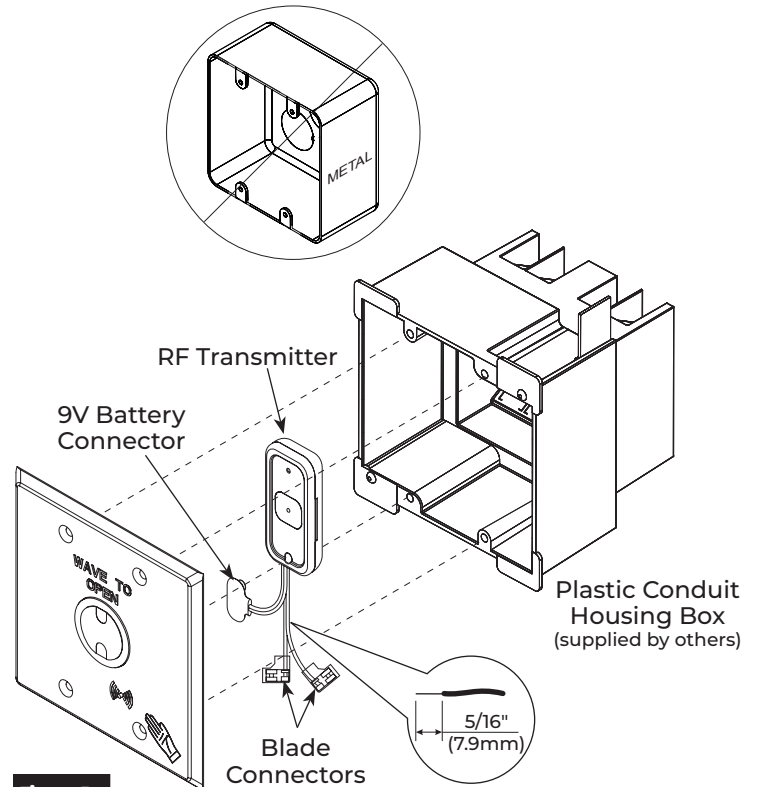
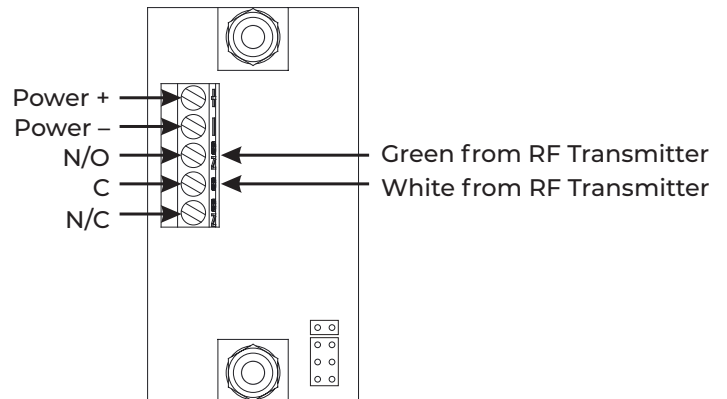

Figure 5
Figure 6 Back of Switch
- A plastic conduit housing box is required. (Figure 5). Metal can reduce signal strength. To ensure proper function, an RF transmitter should not be used when Wave-to-Open switch is installed in a metal enclosure.
3. Strip sheathing from each wire end exposing 5/16" (7.9) to prepare wires for connection. (Figure 5)
4. Wire the RF Transmitter to the Switch. (Figure 6)
- Green wire to Normally Open (NO)
- White wire to Common (C).
5. Install 9V Battery to female battery connector. (Figure 5)